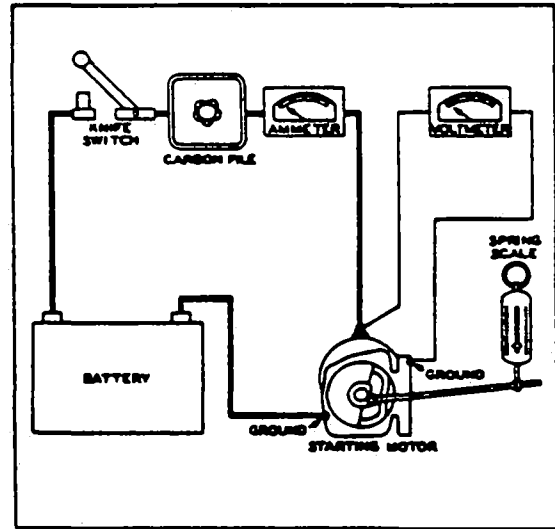

Figure 11-47. Stall-Torque Hookup
b. If no difficulty is indicated in the above test, a stall torque test may be made to see if the starting motor is producing its rated cranking power. Make test connections as shown in Figure 11-47.